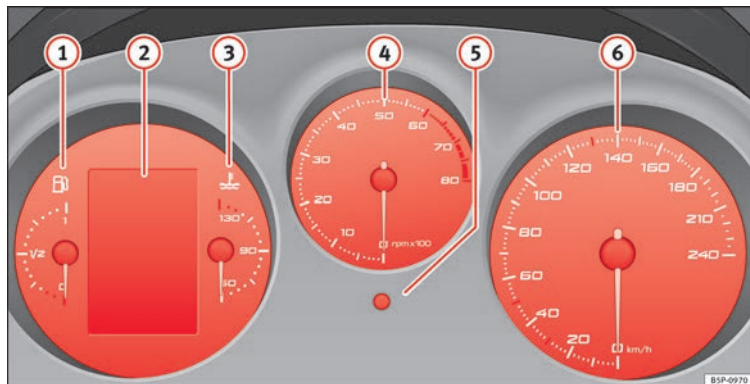

Fig. 26 Detailed view of the dash panel: Dash panel.
The start of the red area » **Fig. 26** ④ indicates maximum engine speed working at service temperature. However, it is advisable to change up into a higher gear, move the selector lever to D or lift your foot off the accelerator before the needle reaches the red zone.
- Turn the setting knob » **Fig. 26 ⑤** clockwise until the first “click” to set the hour. The hour will flash. To change the hour, press the button.